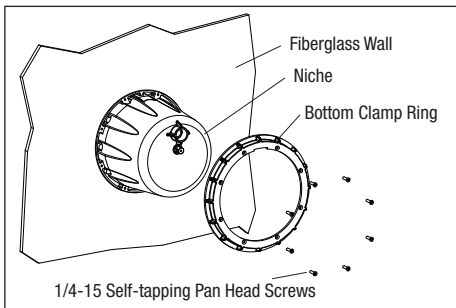

**Figure 1. Pool Niche Installation**
2. The Junction Box (or, for 12 volt models, the low voltage transformer) must be located at least eight (8) inches above water level, at least four (4) inches above ground level, and at least four (4) feet from the edge of the pool or spa. See *Figure 1*.
3. The light fixture and all metal items within five (5) feet of the pool or spa must be properly electrically bonded to a reliable point of grounding.
4. The wet niche must be properly installed so that the top edge of the underwater light's lens is at least 18 inches below (not more than 48 inches below in Canada) the surface of the water in the pool or spa. See *Figure 1*.
5. The wet niche must be properly electrically bonded and grounded via the No. 8 AWG ground connector located at the rear of the niche. See *Figure 1*.